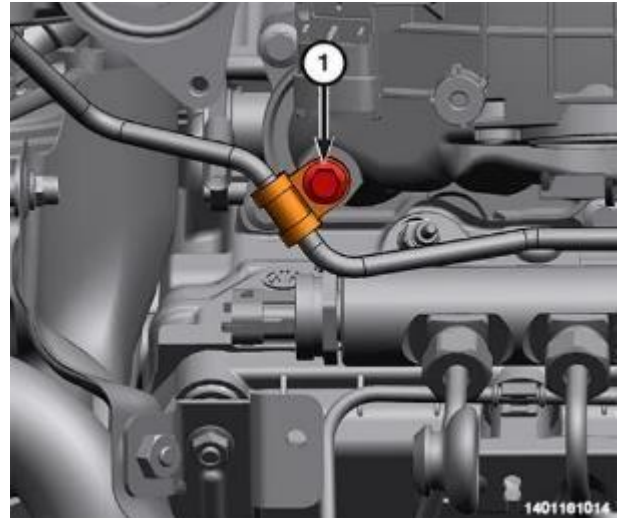

Figure 58 – Crossover Tube Bolt
102. Install the bolt (1) securing the fuel crossover tube and tighten to 11 N·m (8 ft. lbs.) (Figure 58).